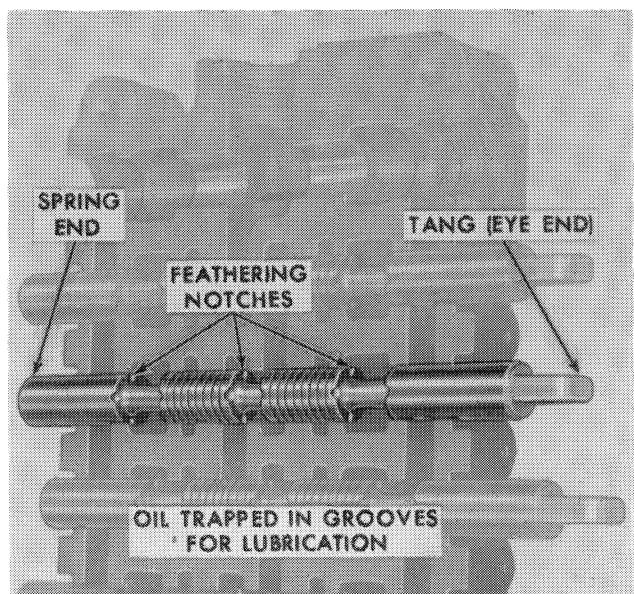

Figure 6
**Controlled Feathering Action:** The spool of the main control valve is designed to provide controlled oil flow to the cylinders. Each land edge has four small notches, Figure 6. As the spool is moved, the notches meter a small amount of oil, slowly pressurizing the system before the main land opens and allows full flow. Easing the spool through its first stage of movement provides the pinpoint movement needed for accurate control.